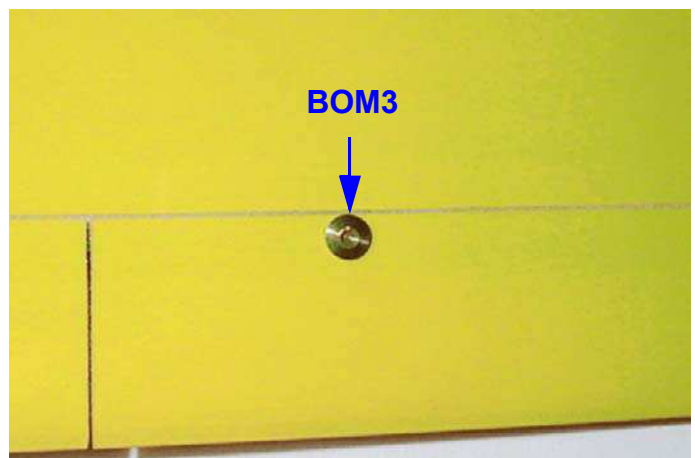

Fig.117: Bush in position (wing seen from top).
- insert the threaded bushes "BOM3" in their holes from the top surface (see figure 117);